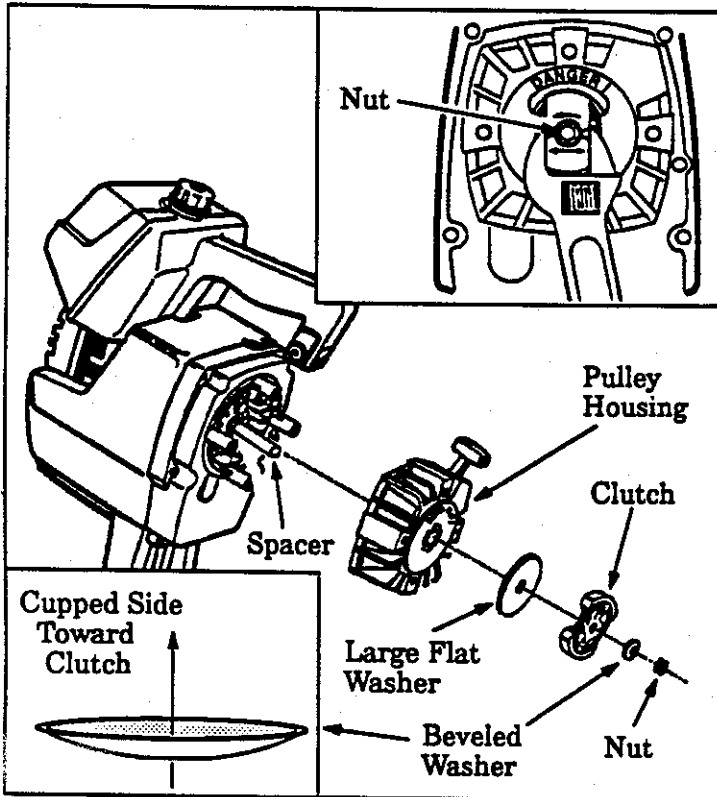

Figure 28
5. Hold the "Flats" of the clutch with an adjustable wrench as shown in Figure 28 (inset) and remove the Nut counterclockwise with a 9/16" socket wrench.
6. Remove the Beveled Washer, Clutch, and Large Flat Washer as shown in Figure 28.
7. Remove the Pulley Housing from the Engine. Figure 28.
21. Make sure Spacer is in place as shown in Figure 28 , then reverse steps 1 through 7 to re-assemble.
**CAUTION:** When reinstalling the clutch, install the beveled washer as shown in Figure 28 (inset, lower left) and tighten the nut until the beveled washer is flattened against the clutch. Over or under tightening the nut can cause engine damage.